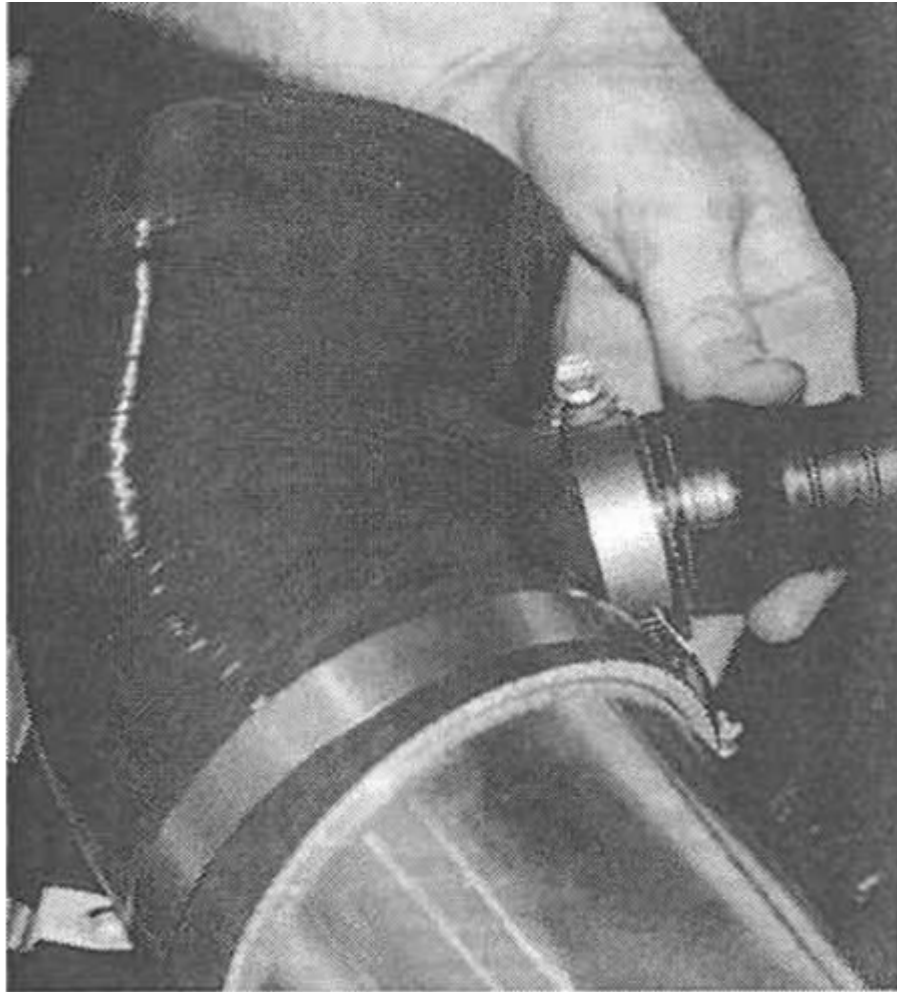

Figure 10
2. Once the shield is in place attach the silicone hose with three ends over the mass air flow sensor pipe. You need to place the three hose clamps over the ends of the hose before fitting it over any of the parts. Next fit the sound tube into the smallest hole in the silicone as seen in Figure 10.